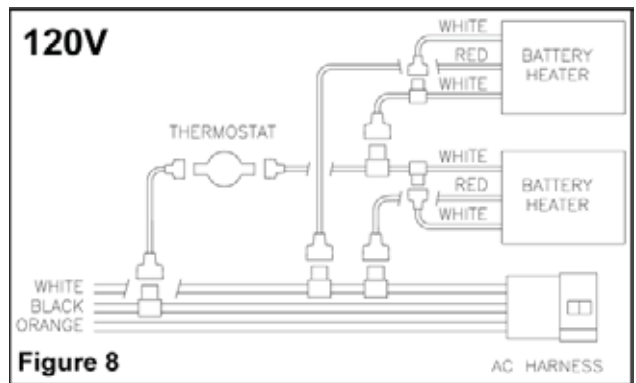

**Figure 6**
- a. Put batteries and electronic module back in place as shown on figure 5. See figure 6 for batteries wiring diagram.
- c. Put the batteries back in place . Battery heater is placed in between the battery and the backplate. See figure 6 for batteries wiring diagram. Put the electronic module back in place as shown on figure 5.